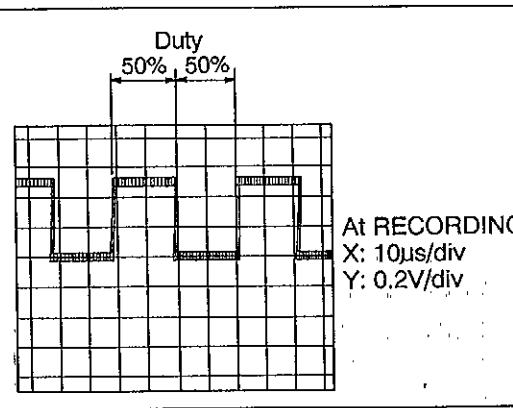

Fig. 3
- Load a DCC blank tape (RFKZ0033) into the unit under test and put the unit in REC mode. Verify that a continuous 47 Hz square wave with a 50 percent duty ratio is observed on the scope (see Fig. 3). This is the normal result. Also verify that the same waveform is observed when a prerecorded ACC tape is played.